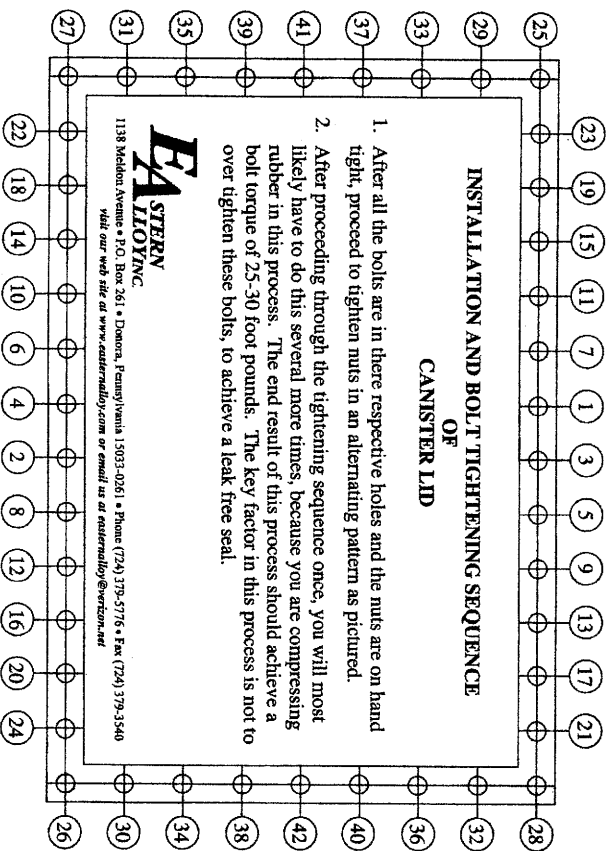

Figure 3
- 3.8 Finish tightening the bolts in the order shown in **Figure 3**. The canister may contain more or less bolts than shown in **Figure 3**. Regardless of number of canister bolts or exact canister configuration, use the same methodology. From the middle, work from side to side on the long ends and then from side to side across the short ends.